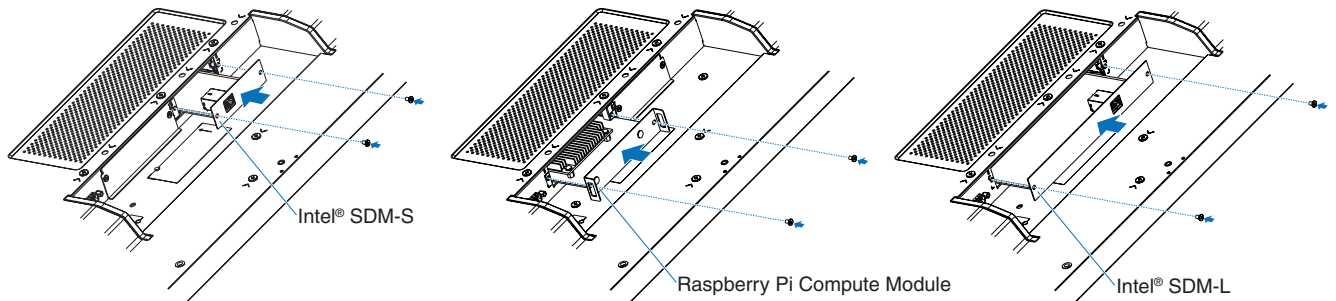

Figure 2
4. Insert the Option Board into the monitor and affix it in place with the removed screws (Figure 2). (Recommended fasten force: 50~80 N•cm).